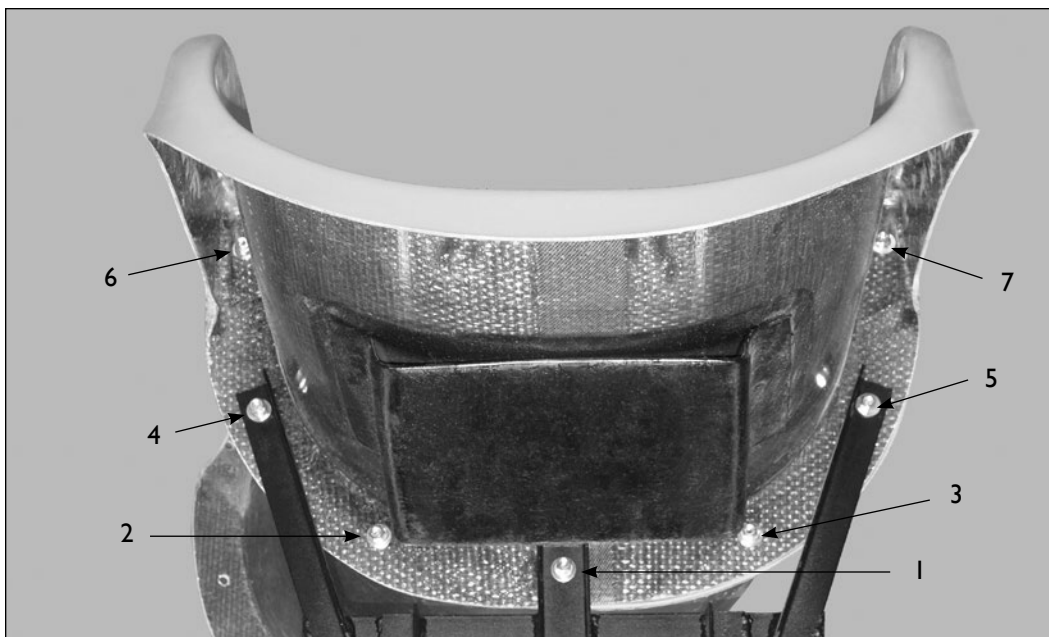

FIG. 3
- Anchor supports attach to the down slope side of the flange. (Fig. 3)
- Insert and hand tighten all seven flange bolts. Then, utilizing a torque wrench, tighten each nut to approximately half of the maximum 25 ft. lbs. Tighten the bolts in an alternating fashion working from left to right starting with the center bolt, working your way up the flange (Fig. 3). Repeat this same tightening process until the specified 25 ft lbs is reached on each bolt. Do not over tighten. Using greater force may fracture the fiberglass. Tightening the bolts in this sequence is necessary to compress the gasket evenly.